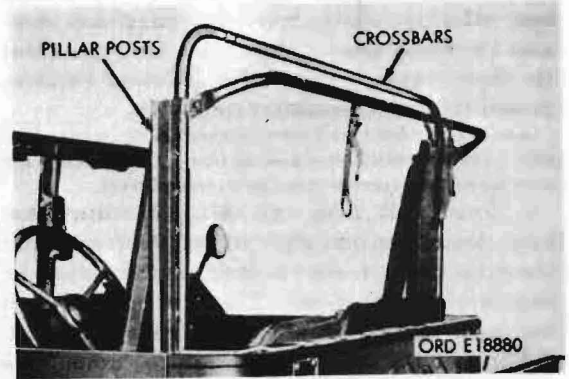

Figure 110. Removing pillar posts and crossbars.
- (5) Remove the pillar post from the cab and disassemble by removing the crossbars (fig. 110).